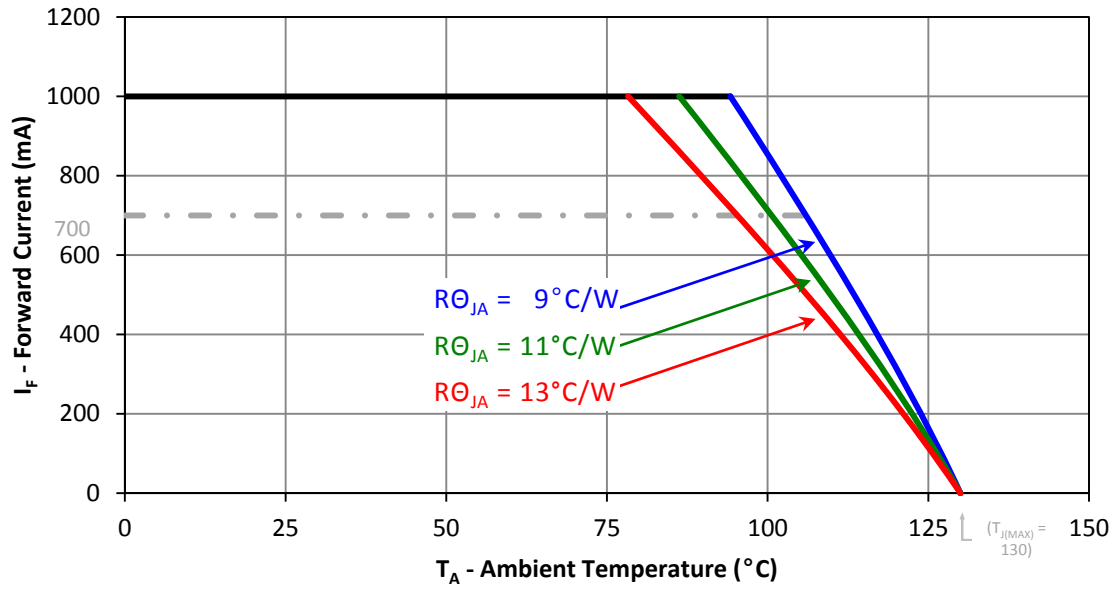

Figure 11: Maximum forward current vs. ambient temperature based on  $T_{j(\text{MAX})} = 130^\circ\text{C}$ .
1. Maximum DC forward current is determined by the overall thermal resistance and ambient temperature. Follow the curves in Figure 11 for current derating.
Notes for Figure 11: